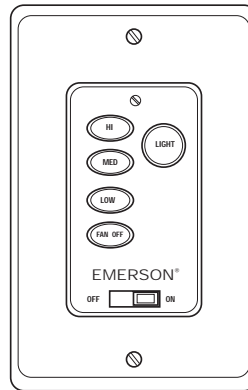

Figure 19
Your Fan/Light Wall Control (Figure 19) has full control of your fan and light. However, airflow direction is controlled by a pull chain on the light fitter switch.
- 2. To set the desired fan speed, press the HI, MED, or LOW buttons to operate your fan on high, medium, or low speed (Figure 19).